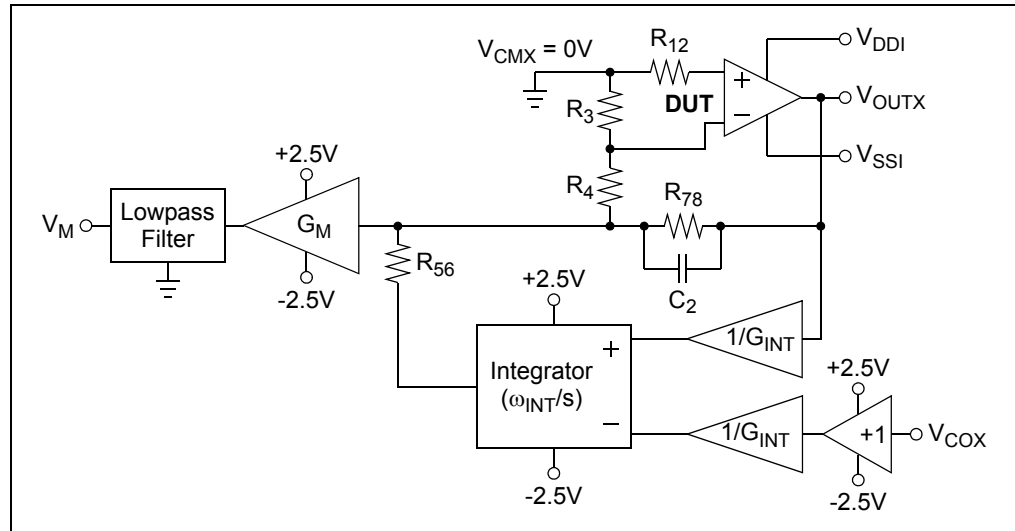

FIGURE 1-2: Simplified Circuit.
Figure 1-2 is a simplified diagram of the circuitry that biases the DUT and produces an amplified version of the DUT's input offset voltage (V_{OST}). It includes gain at the input, a Proportional plus Integral (PI) controller loop, a high gain amplifier and a filter.
The elements of Figure 1-2 correspond to the components in the complete schematic (A.3 “Board – Schematic”) as follows.